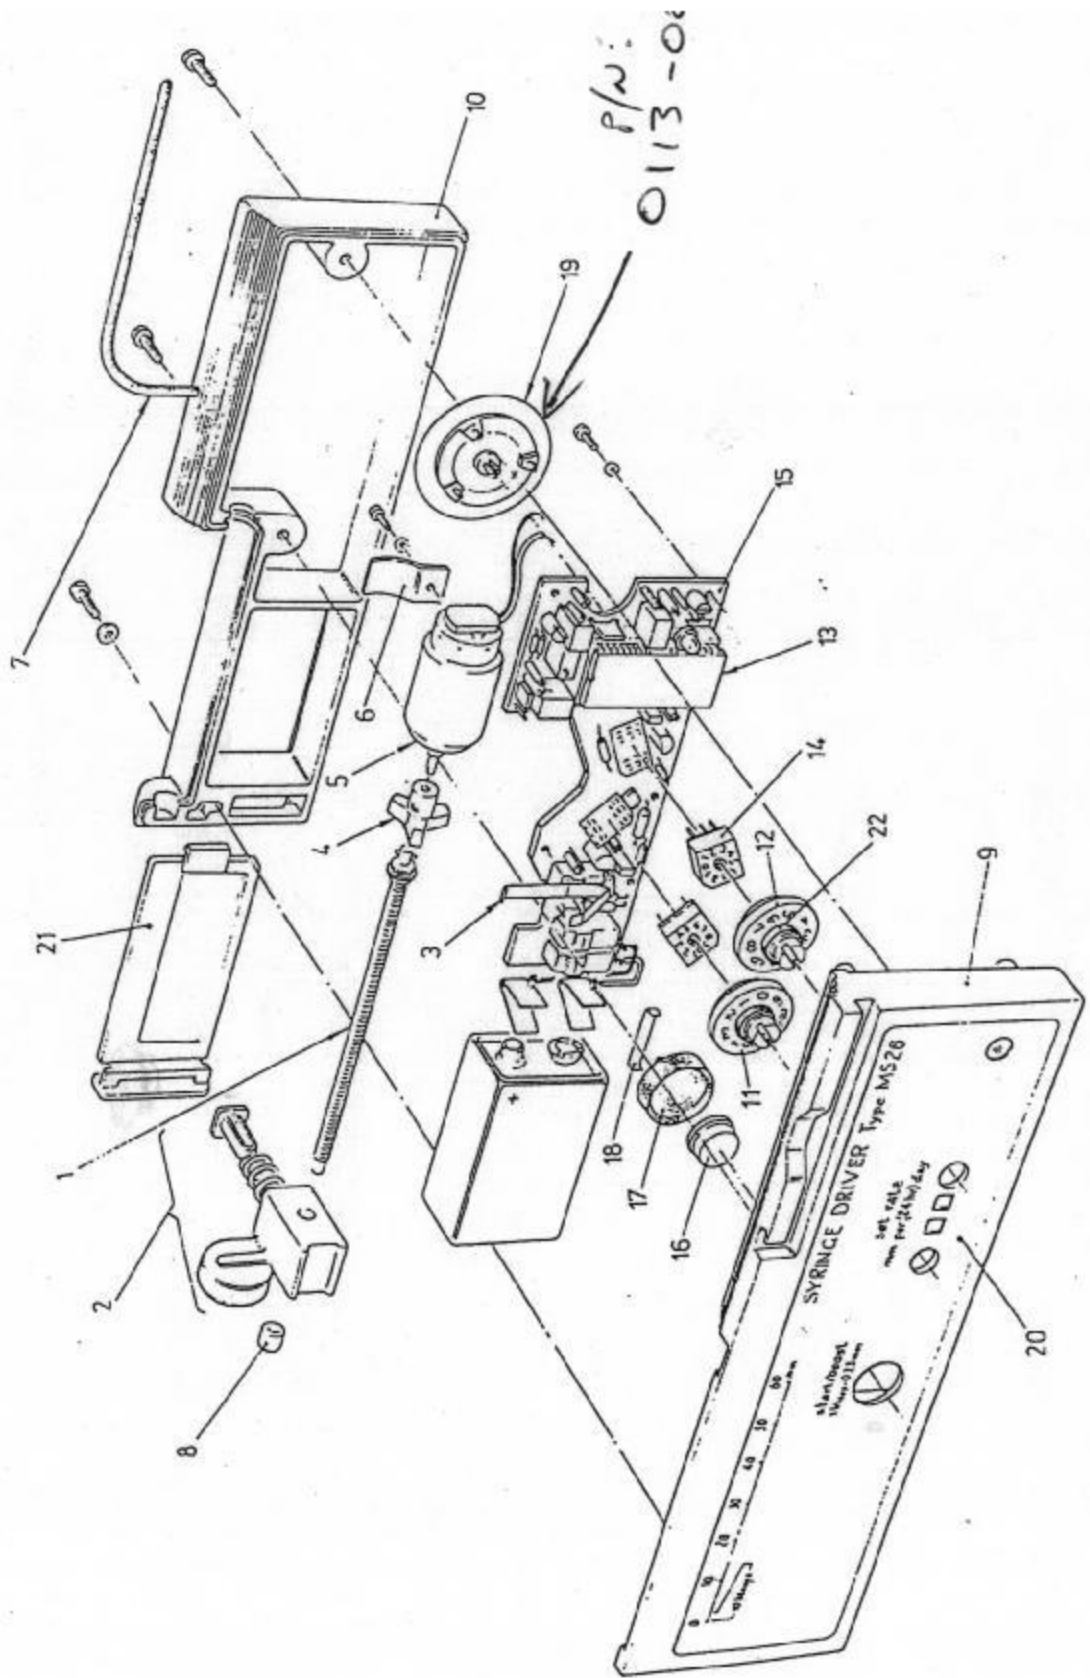

Figure 6 - Exploded View of Syringe Driver MS26
Item numbers quoted refer to Figure 6.
1. Depress the plunger and slide the actuator onto the leadscrew from the back bearing end. Fig.6 shows the correct way the actuator (item 2) should face.
2. By suspending weights from the actuator (item 2, Fig. 6) or by using a 'Spring Test Gauge Assy', Part No. 0105-0083, which is temporarily fitted in place of a syringe. Check :-
[ ] Ref nos in Fig.6